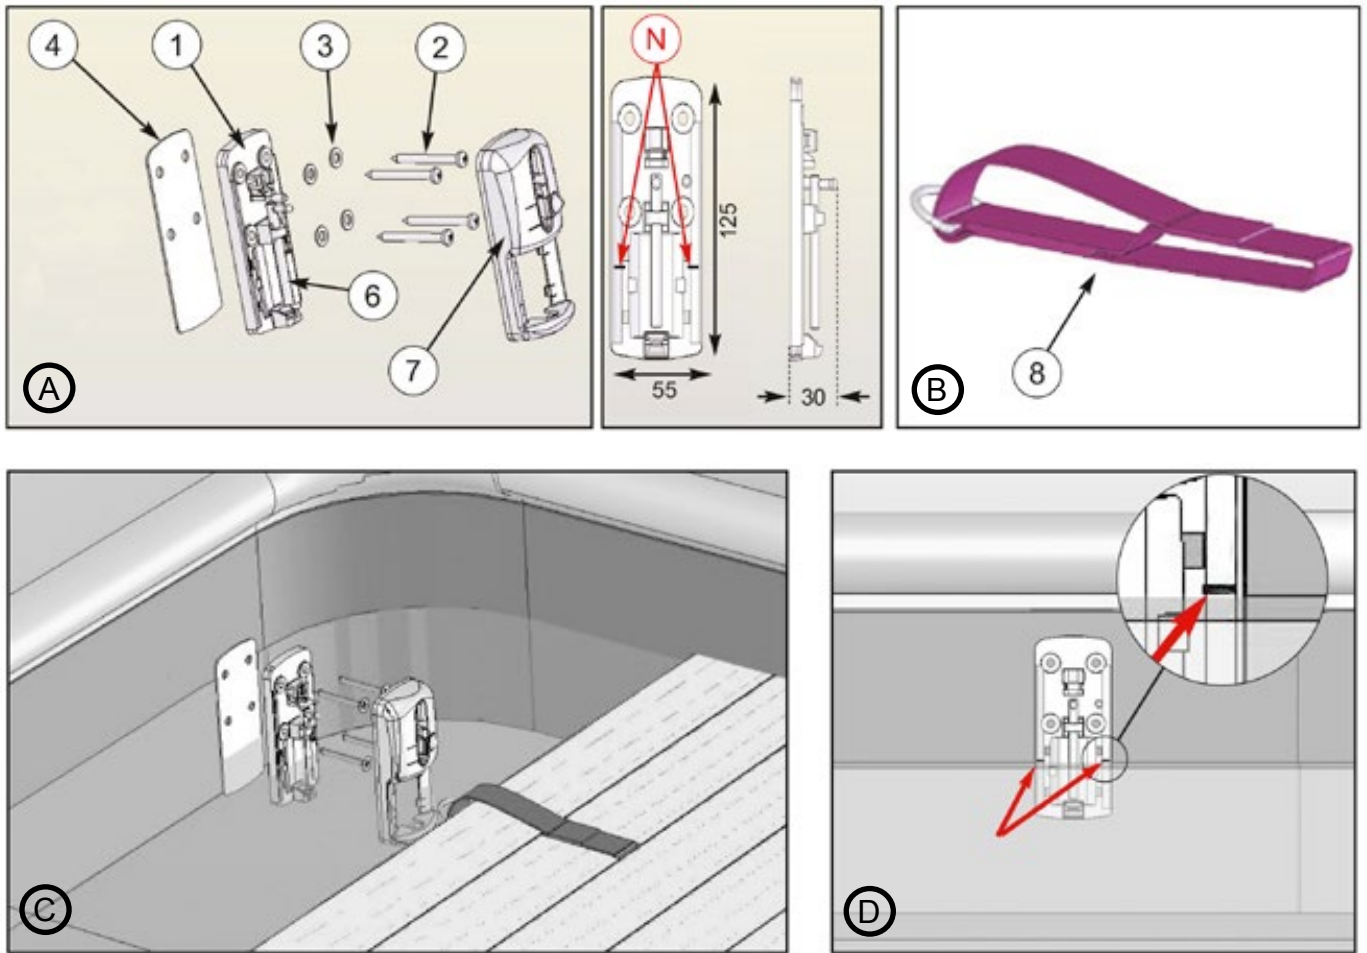

Figure 47 – Mounting the cover fasteners
Installation of the safety fasteners is illustrated in *Figure 47*.
The safety straps (8) are pre-installed on the first two slats of the cover apron. Use the mounting brackets(1) as a drilling template and pre-drill the wall at the locations where the cover safety fasteners will be mounted, that is, the wall opposite the axle, exactly opposite the safety straps. Position the mounting brackets such that the marks N are at the water level (*Figure 47*).